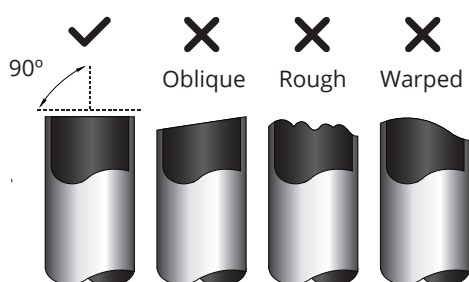

Fig. 7.4
1. Make sure that the pipe is cut at a perfect 90° angle. Refer to Fig. 7.4 for examples of bad cuts